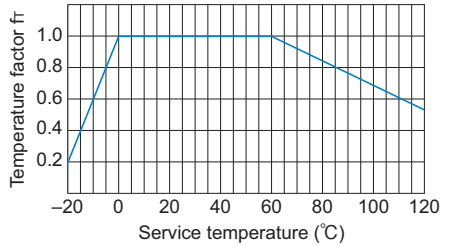

Fig.2 Temperature Factor
If the temperature of the lead screw nut exceeds the normal temperature range, the seizure resistance of the nut and the strength of the material will decrease. Therefore, it is necessary to multiply the dynamic permissible torque (T) and the dynamic permissible thrust (F) by the corresponding temperature factor indicated in Fig.2. Accordingly, when selecting a lead screw nut, the following equations need to be met in terms of its strength.
- fr : Temperature factor (see Fig.2)
- F : Dynamic permissible thrust (N)
- PF : Axial load (N)